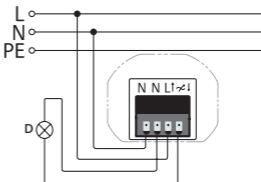
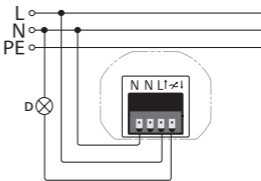

Figure 1
Figure 2
- 4 Connect the conductor for the lamp/light (D) to the I terminal.
- 7 Connect the neutral conductor for the lamp/light (D) to the neutral conductor of the house installation (see Figure 1) or to terminal N (see Figure 2).